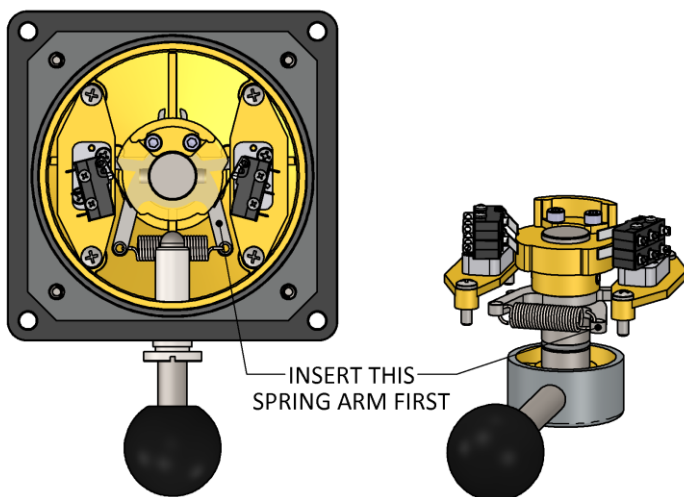

Figure 15: 7196 Spring Arm Order
- c. Refer to Figure 15 for spring arm orientation/order during re-assembly.